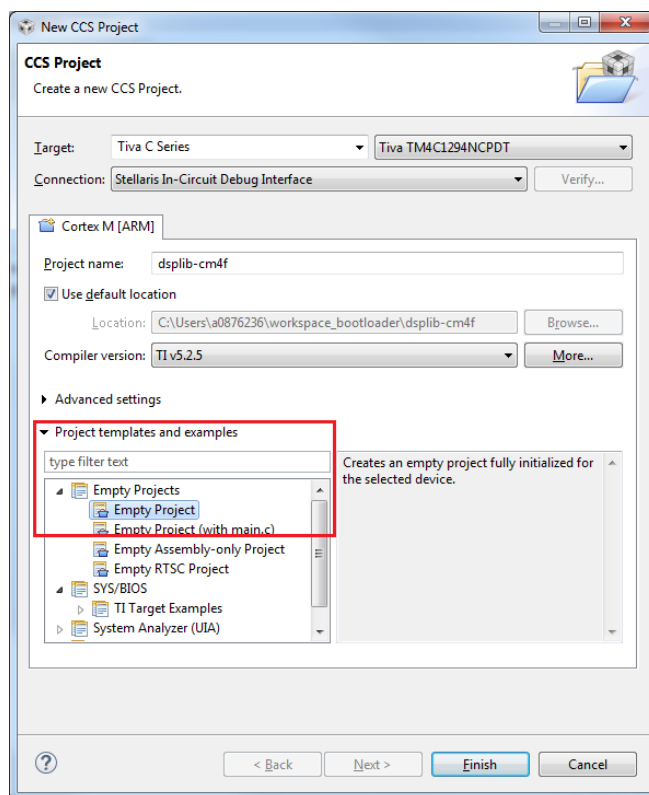

Figure 2. Creating the dsplib Project
6. In **Project templates and examples** (see Figure 2), select **Empty Project**.